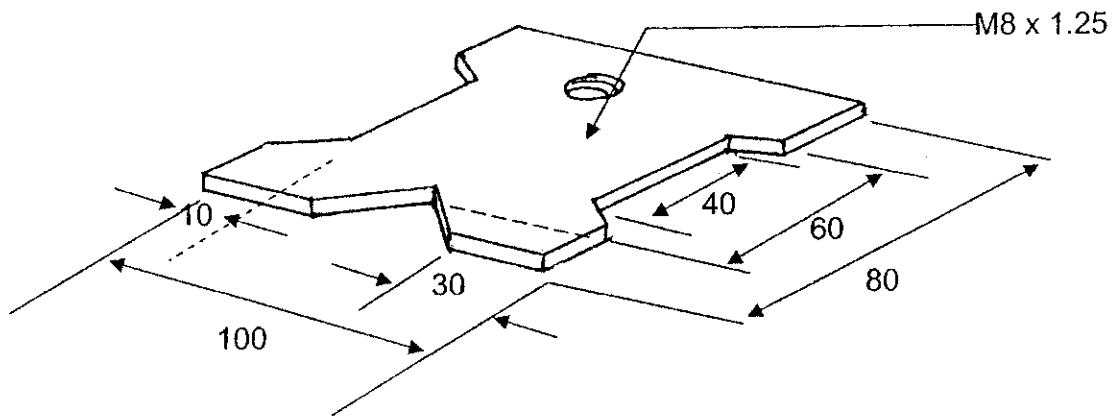

FIGURE 1
1. Figure 1 shows a component made from a mild steel plate measuring 100 mm x 50 mm x 3 mm.